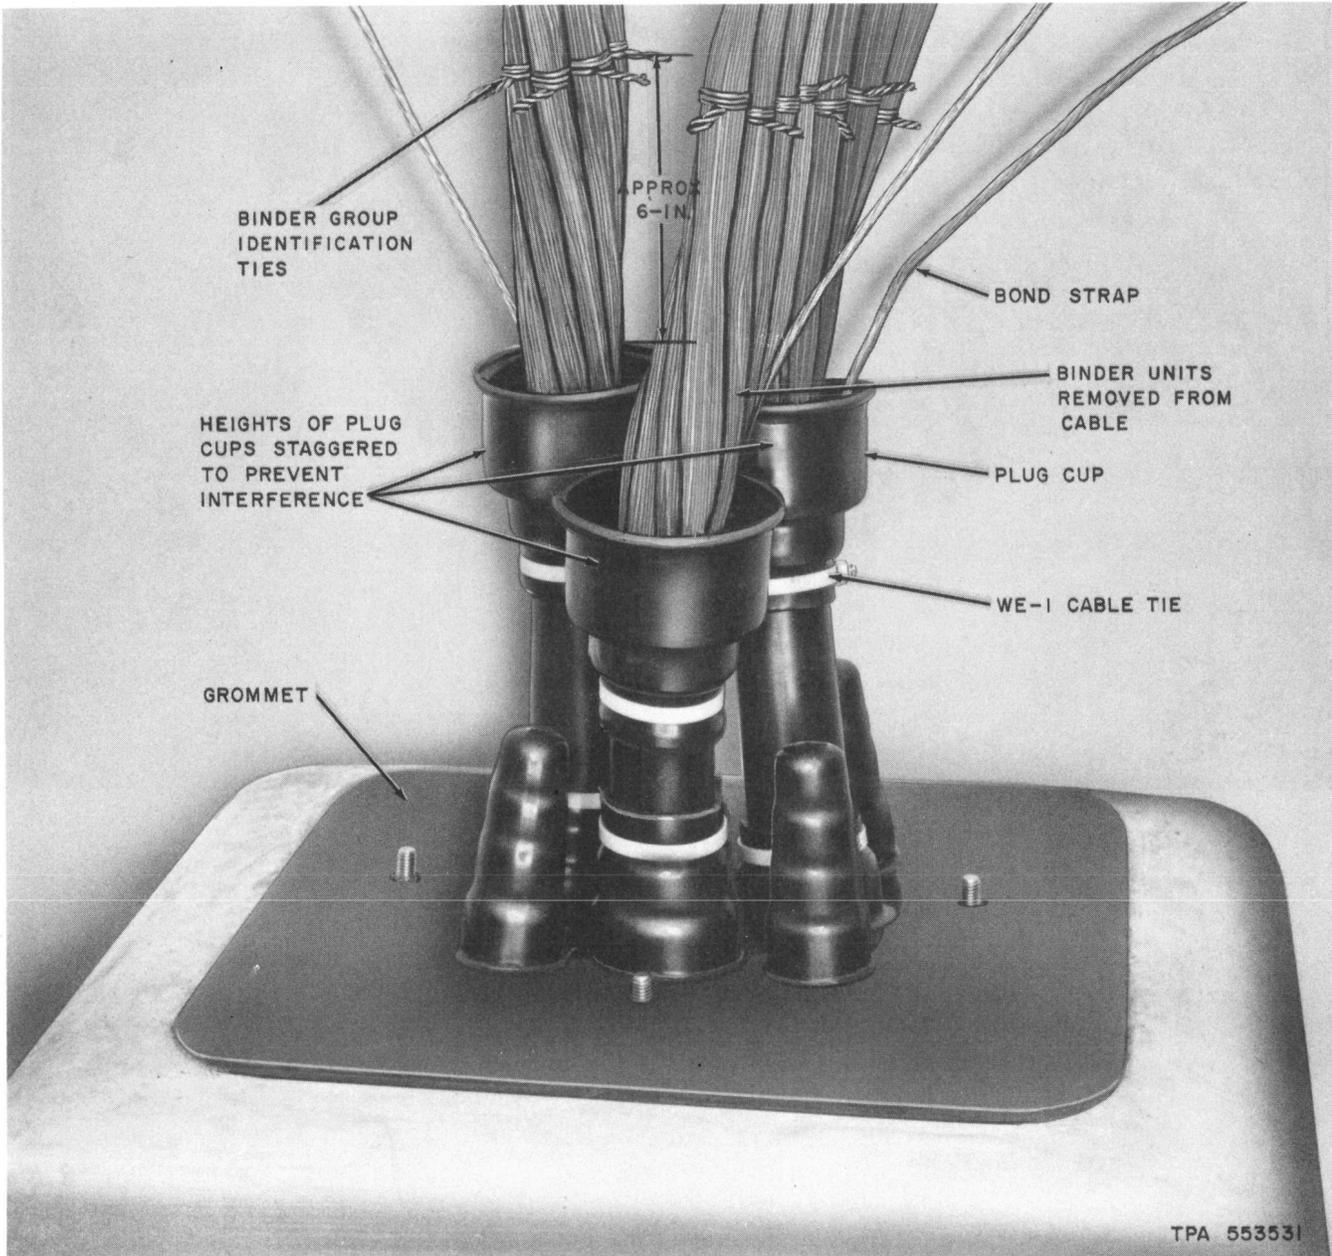

Fig. 11—Cables Prepared for Plugging
5.04 Remove core wrap from the cable and apply binder group identification ties at a point approximately six inches above the butt of the cable. (Fig. 11)
5.06 Slide the plug cup up on the cable as shown in Fig. 11 and secure with WE-1 cable tie. The cable is now ready to be plugged, however due to time required for plugging compound to reach no flow condition, it is advisable to complete the wiring operation before pouring encapsulant (Part 13).